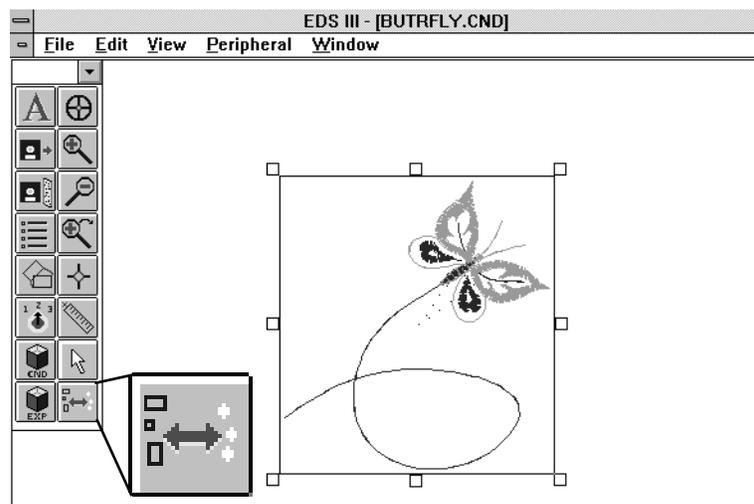

Figure 1-5
- You must click on the object to be edited; this brings up a highlighted box around the object (Fig. 1-5) and highlights the Editing <-> Layout tool.
After highlighting an object in the Layout window (see Figure 1-5), click on the Editing <->